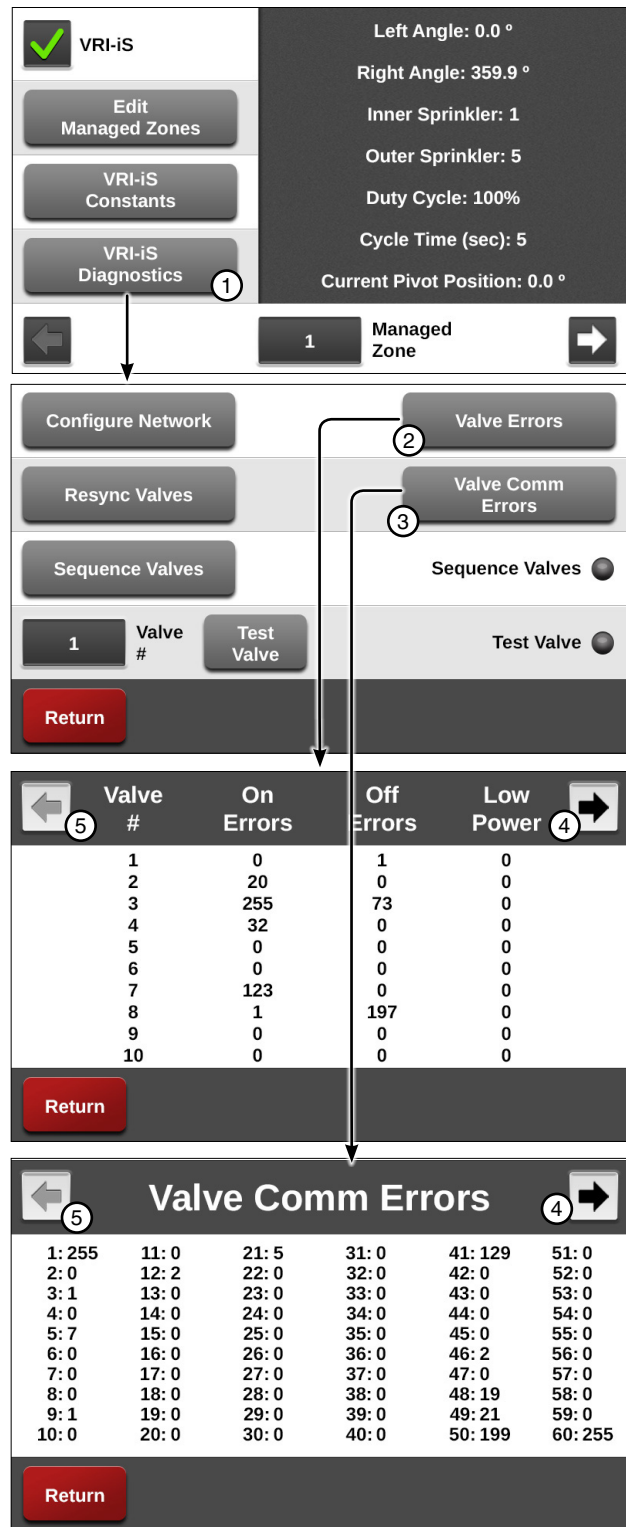

Figure 182-1 1. VRI-iS Diagnostics 4. Next
1. Push **Menu, Programs, VRI** and **VRI-iS Diagnostics** to display the VRI-iS diagnostics screen. Refer to Figure 182-1.